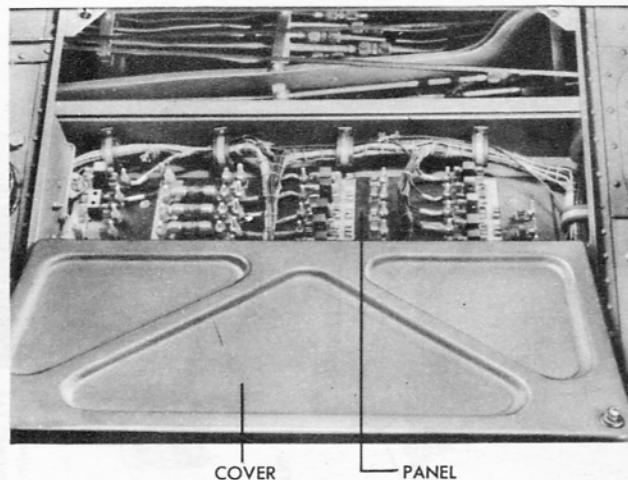

Figure 240 - MAIN FUSE PANEL
(7) MAIN FUSE PANEL. (See figure 240.) - Mounted on the left side of the fuselage in the nose wheel well between Stations 37 and 75 is the main fuse panel. Access to the area is through a hinged cover on the inside of the nose wheel well. Its cover is attached by Dzus fasteners.
(8) MISCELLANEOUS ELECTRICAL EQUIPMENT.